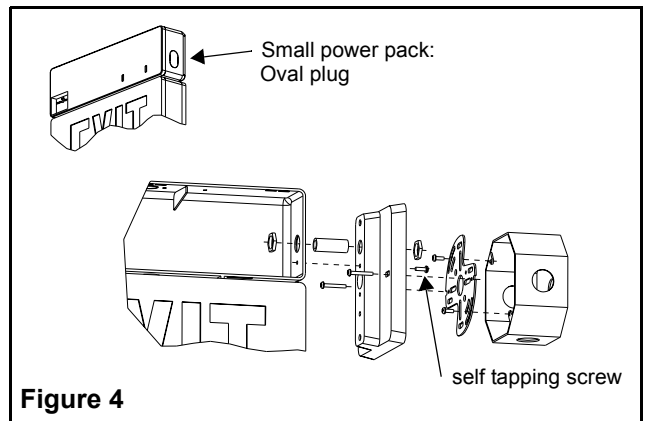

Figure 4
Important — Depending on the model, there are two possible power pack housings with this unit. The small power pack has an oval plug on the side (see fig. 4). The large power pack has a knockout on the side (see fig. 5). Follow the proper mounting solution and continue to step 7.
- Use a threaded nipple and two hexagonal nuts as well as the self tapping screw 1/2" to mount the canopy (see fig. 4).